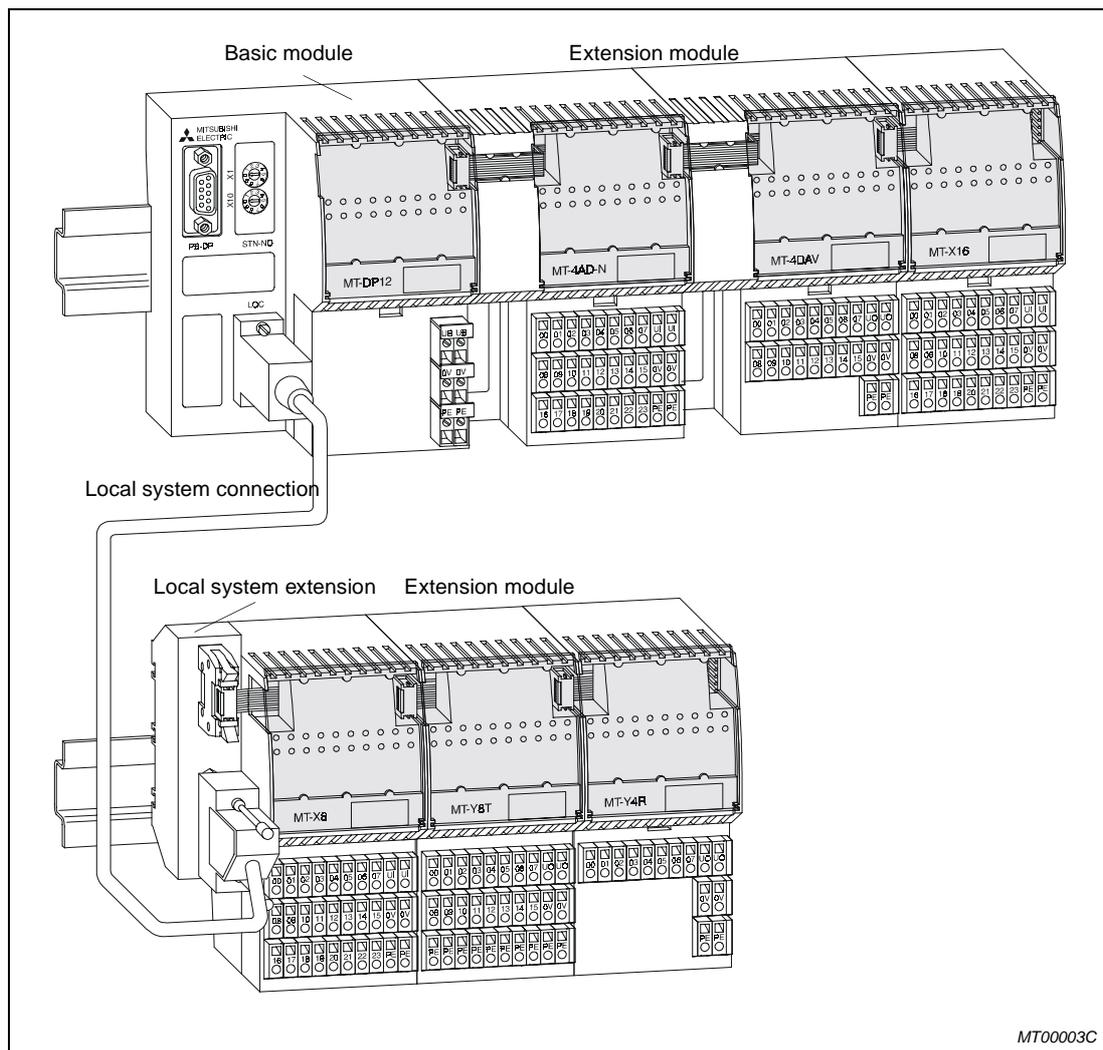

Fig. 6-2: Sample configuration
The configuration of the MT-DP12 module depends on the number and type of extension modules. For this purpose identification bytes are assigned consecutively for each module. The assignment starts with the modules that are connected to the internal system interface (see figure 6-2). These operations are not apparent with the MELSOFT GX Configurator-DP parameterizing software.
- ⑦ The left window lists the modules of the MT series. They have to be added to the right window in the same order as the hardware is arranged. Remind to add the modules that are connected to the local extension in the same order as if they were mounted to the right of the last module on the first mounting level. Figure 6-12 refers to the sample configuration shown in figure 6-2. For the completion of the configuration confirm and close the window with "OK".